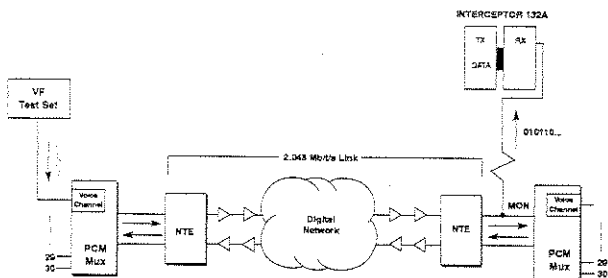

Figure 7-3
You can use the INTERCEPTOR 132A on the digital (line) side of a PCM multiplexer (mux). First use a Voice Frequency (VF) test set to insert a test tone into the analog input of a voice channel card in the mux (as shown in Figure 7-3). Then use the INTERCEPTOR 132A to measure the level and frequency of that test tone as it is received. You can also use the INTERCEPTOR 132A's speaker to monitor the voice channel (with or without a test tone present) to identify severe noise problems.